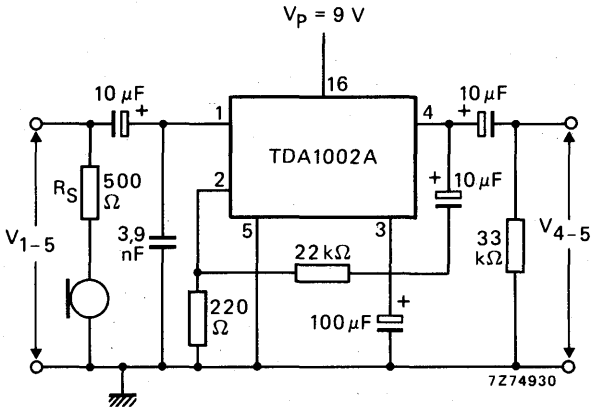
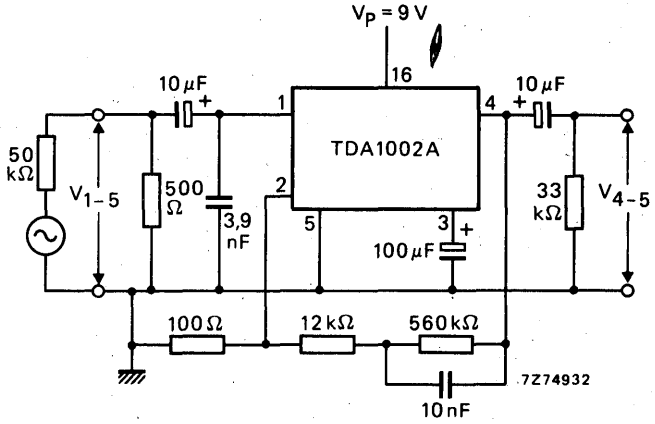

Fig. 3 Preamplifier used as microphone amplifier.
Fig. 5 Preamplifier used for playback.
- For recording see Fig. 3; for playback see Fig. 5.